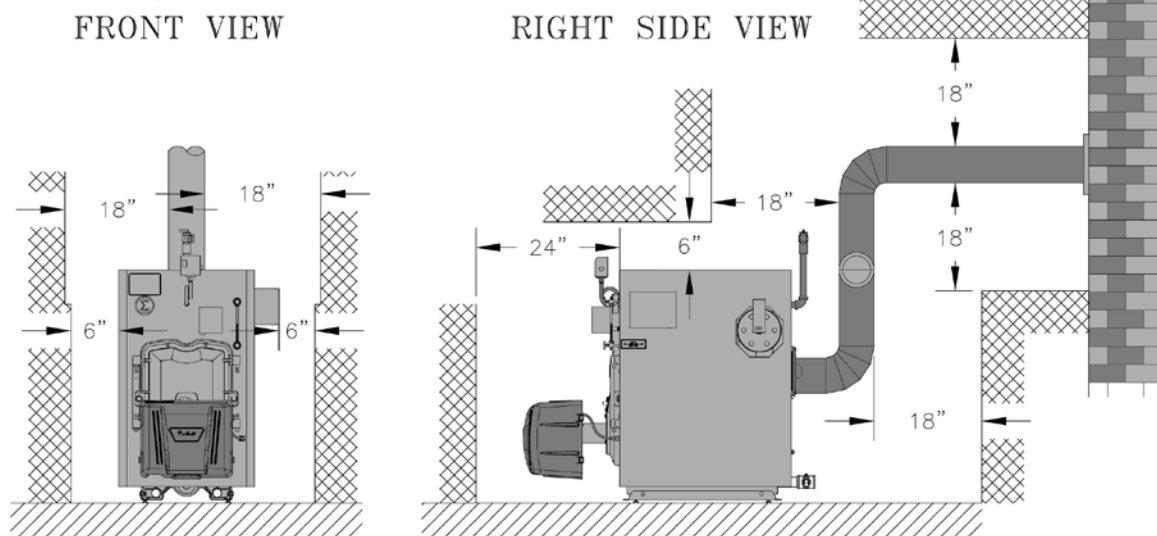

Figure 2: Minimum Installation Clearances To Combustible Materials (Inches)
(Note: This dimension will also be controlled by horizontal to vertical to horizontal smokepipe arrangement - See Figures 2 and 17).
5. For minimum clearances to combustible materials. See Figure 2.